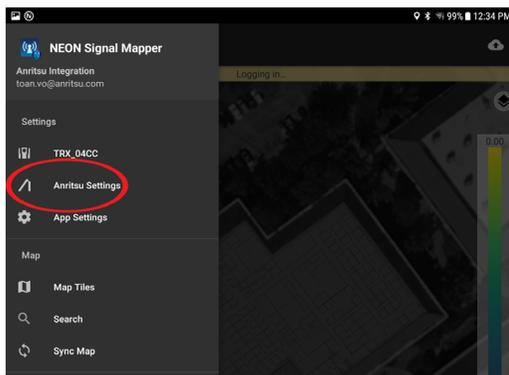

Figure 2-11. Smartphone Anritsu Settings
4. Touch Anritsu Settings to access the smartphone's Anritsu Settings as shown in Figure 2-11.